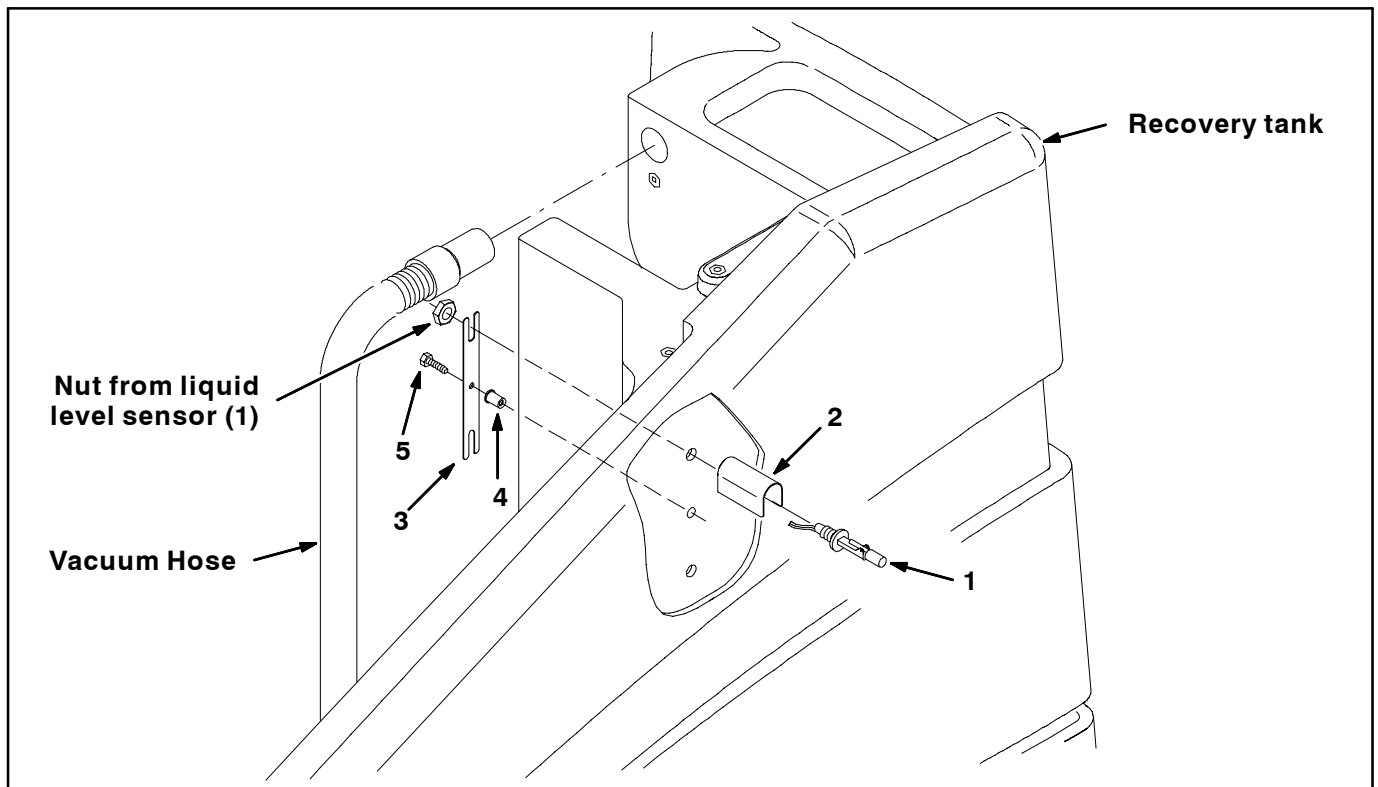

FIG. 5-Liquid Level Sensor Installation
6. Pull the liquid level sensor (1) wires through the hole in the float switch protector bracket (2) and the hole inside the recovery tank. Refer to Fig. 5.
7. Position the liquid level sensor so the narrow end of the float sensor (1) is pointed up and the black mark is on top in the 12:00 position. Refer to Fig. 5.
8. Hold the level switch alignment plate (3) onto the liquid level sensor (1) and against the recovery tank and thread the nut from the liquid level sensor onto the liquid level sensor. Do not completely tighten the nut. Refer to Fig. 5.
9. Use the level switch alignment plate (3) as a template and drill a 1/2" (0.50") hole through the center hole in the level switch alignment plate and into the recovery tank. Refer to Fig. 5.
10. Tighten the hex screw (5) through the level switch alignment plate (3) and the isolator nut (4) and into the recovery tank. Refer to Fig. 5.
11. Install the connector and lock onto the liquid level sensor (1) wire terminals.
12. Draw a small black line in the 12:00 position outside the liquid level sensor mounting hole. Regularly check to ensure the black mark on the liquid level sensor (1) and the recovery tank are aligned. The switch may not function properly if it is rotated or twisted.
13. Tighten the nut from the liquid level sensor (1) enough to hold the sensor and float switch protector bracket (2) firmly into place inside the recovery tank.
19. Turn on the scrubbing system and fill the recovery tank with enough water to cover the liquid level sensor (1).